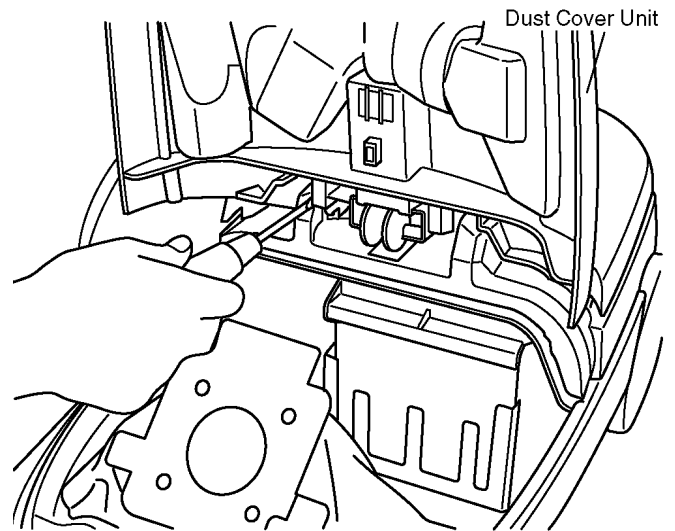

Fig.3
1. Insert a regular screwdriver-into the fitting section of the dust cover and upper body, and remove the dust cover unit by prying it off. (Fig.3)